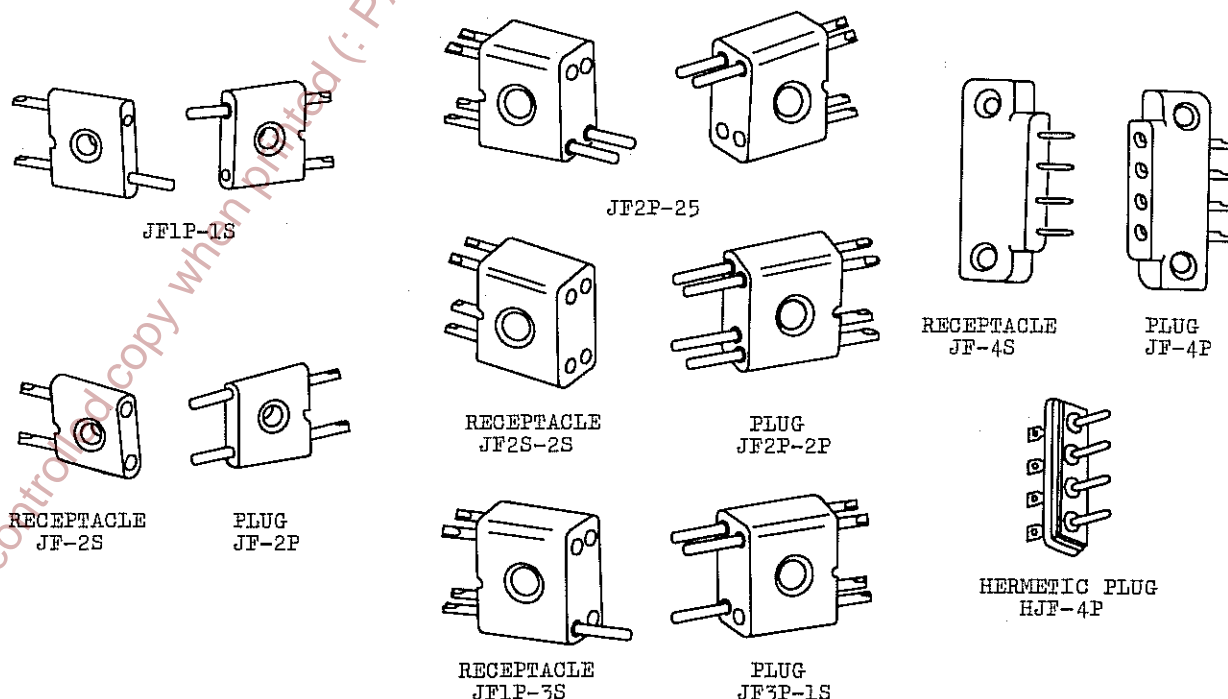

FIGURE 1. THE JF SIDE-MOUNTING SERIES
4.1 Figure 1 illustrates the connectors of the JF series in their actual sizes. As shown, all of the connectors are of the solder type. All employ solder cups except the hermetic plug which is equipped with solder tabs. The contacts are housed in melamine bodies.